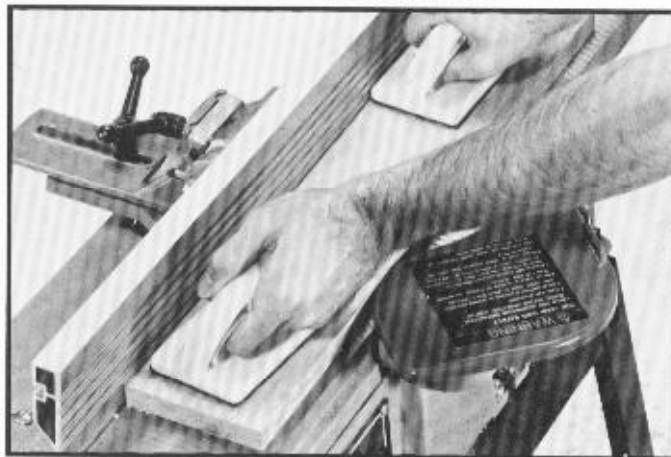

Fig. 1A
2. **PLANING OPERATIONS** - Planing or surfacing are identical to the jointing operation except for the position of the workpiece. For planing, the major flat surface of the workpiece is placed on the infeed table of the jointer with the narrow edge of the workpiece against the fence, as shown in Fig. 1A. The workpiece is moved from the infeed table, across the cutterhead to the outfeed table. Use push blocks when performing planing operations whenever possible.